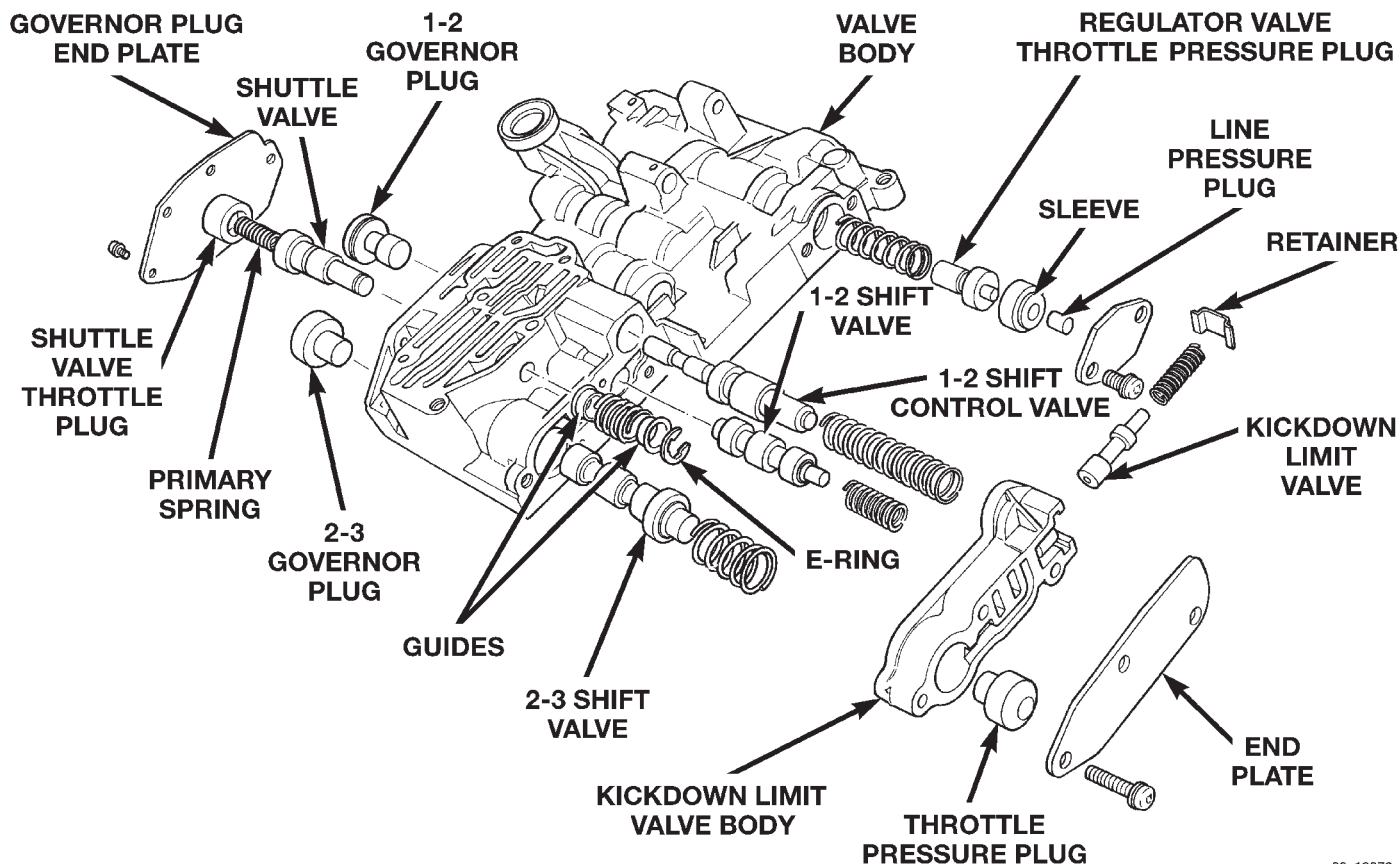

Fig. 53 Control Valves, Shift Valves, And Governor Plugs
- (23) Remove governor plug end plate (Fig. 53).
- (24) Remove 1-2 and 2-3 shift valve governor plugs from valve body (Fig. 53).
- (25) Remove shuttle valve throttle plug, primary spring and shuttle valve from valve body (Fig. 53).
- (26) Remove screws attaching kickdown limit valve body to valve body (Fig. 53).
- (27) Remove 1-2 shift control valve and spring from valve body (Fig. 53).
- (28) Remove 2-3 shift valve and spring from valve body (Fig. 53).
- (29) Remove 1-2 shift valve and spring from valve body (Fig. 53).
- (30) Remove throttle pressure plug from kickdown limit valve body (Fig. 53).
- (31) Remove retainer from end of kickdown limit valve body (Fig. 53).
- (32) Remove kickdown limit valve and spring from kickdown limit valve body (Fig. 53).
- (33) Remove regulator valve end plate from valve body (Fig. 53).
- (34) Remove regulator valve line pressure plug, pressure plug sleeve, regulator valve throttle pressure plug and spring (Fig. 53).
- (1) Lubricate valve body bores, valves and plugs with Mopar® ATF Plus 3, Type 7176, transmission fluid.
- (2) Install regulator valve line pressure plug, pressure plug sleeve, regulator valve throttle pressure plug, and spring into valve body (Fig. 53). Verify valve components slide freely.
- (3) Install regulator valve end plate on valve body (Fig. 53).
- (4) Install kickdown limit valve and spring in kickdown limit valve body (Fig. 53). Verify valve components slide freely.
(5) Compress spring into kickdown limit valve body.
(6) Install retainer in grooves at end of kickdown limit valve body (Fig. 53).
(7) Install throttle pressure plug in kickdown limit valve body (Fig. 53).
(8) Install 1-2 shift valve and spring into valve body (Fig. 53).
(9) Install 2-3 shift valve and spring into valve body (Fig. 53).
(10) Install 1-2 shift control valve and spring into valve body (Fig. 53).
(11) Verify valve components slide freely.
(12) Place kickdown limit valve body and end plate in position on valve body and compress springs (Fig. 53).
(13) Install screws to attach kickdown limit valve body to valve body (Fig. 53).
(14) Install shuttle valve throttle plug, primary spring and shuttle valve into valve body (Fig. 53). Verify valve components slide freely.
(15) Install 1-2 and 2-3 shift valve governor plugs into valve body (Fig. 53). Verify valve components slide freely.
(16) Place governor plug end plate in position on valve body and compress spring.
(17) Install screws to attach governor plug end plate to valve body (Fig. 53).
(18) Assemble shuttle valve spring and guides (Fig. 53). Place spring and guides in position on shuttle valve stem.